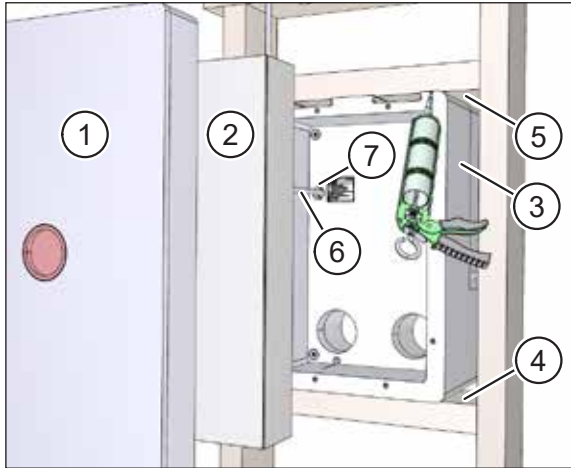

Fig. 20: Inserting and fixing the wall box
- ▶ Remove the plaster cover (item 1 in Fig. 20) and the cardboard insert (item 2 in Fig. 20) from the wall box (item 3 in Fig. 20).
- ▶ Apply assembly adhesive to the top of the lower batten (item 4 in Fig. 20) and the underside of the upper batten (item 5 in Fig. 20).
- ▶ Thread the mains cable and the control cable, if required (item 6 in Fig. 20), through the cable inlet in the wall box (item 7 in Fig. 20).